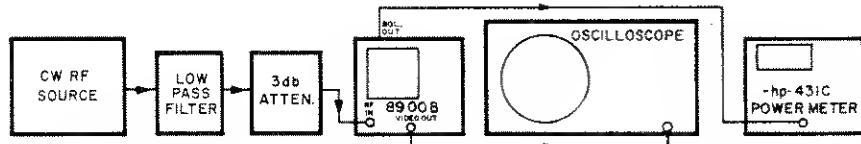

Figure 5-2. Calibration Check
1. Connect equipment as shown in Figure 5-2.
<p>1. Connect equipment as shown in Figure 5-2.</p> <p>2. Set 8900B</p> <p>    Function Switch: MEAS</p> <p>    COARSE and FINE controls: Adjust for 20 mw reading on Peak RF Meter</p> <p>Pulse Generator</p> <p>    Pulse Amplitude: 100 volts, negative-going</p> <p>    Repetition Rate: 10 kHz</p> <p>    Pulse Width: 10 <math>\mu</math>sec</p> <p>    Trigger: Internal</p> <p>RF Source</p> <p>    Output Frequency: 900 MHz</p> <p>Oscilloscope</p> <p>    Vertical Sensitivity: 50 mv/cm</p> <p>3. Adjust level of RF source to 20 mw as determined by 8900B measurement.</p> <p>4. Change 8900B Function Switch to MON/CAL position.</p> <p>5. Change oscilloscope connection from 8900B VIDEO OUT to MON OUT connector and measure voltage level. The detected pulse level should be greater than 200 mv P-P for 20 mw input.</p>